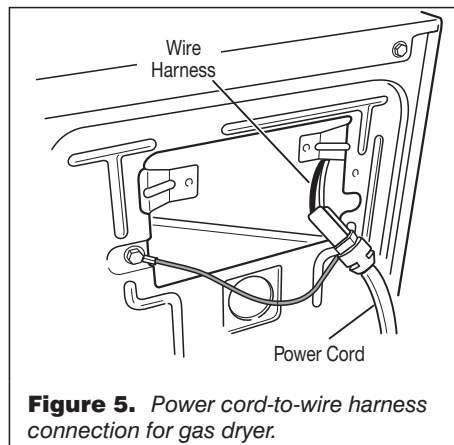
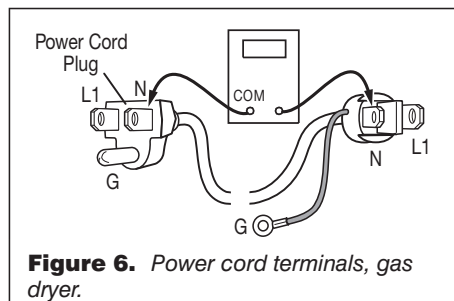

Figure 5. Power cord-to-wire harness connection for gas dryer.
Figure 6. Power cord terminals, gas dryer.
3. Check that the power cord is firmly connected to the dryer's wire harness. See figure 5.
5. With an ohmmeter, check for continuity between the neutral (N) terminal of the plug and P8-3 (white wire) on the machine control board. The left-hand side of figure 6 shows the position of the neutral terminal (N) on the power cord plug. Also see figure 18, page 11.
- If there is no continuity, disconnect the white wire of the harness from the power cord at the location illustrated in figure 5. Test the continuity of the power cord neutral wire as illustrated in figure 6. If an open circuit is found, replace the power cord. Otherwise, go to step 6.
- If there is no continuity, check the continuity of the power cord in a similar way to that illustrated in figure 6, but for power cord's L1 wire.